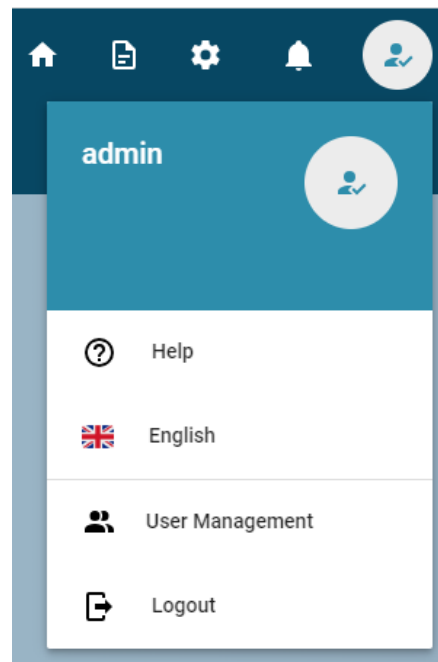

Fig. 6-3: User menu (logged in)
When logged in, users with the *ADMIN* role can also see the user management (see Fig. 6-3).
- Log out with *LOGOUT* (see Fig. 6-3 on page 25).